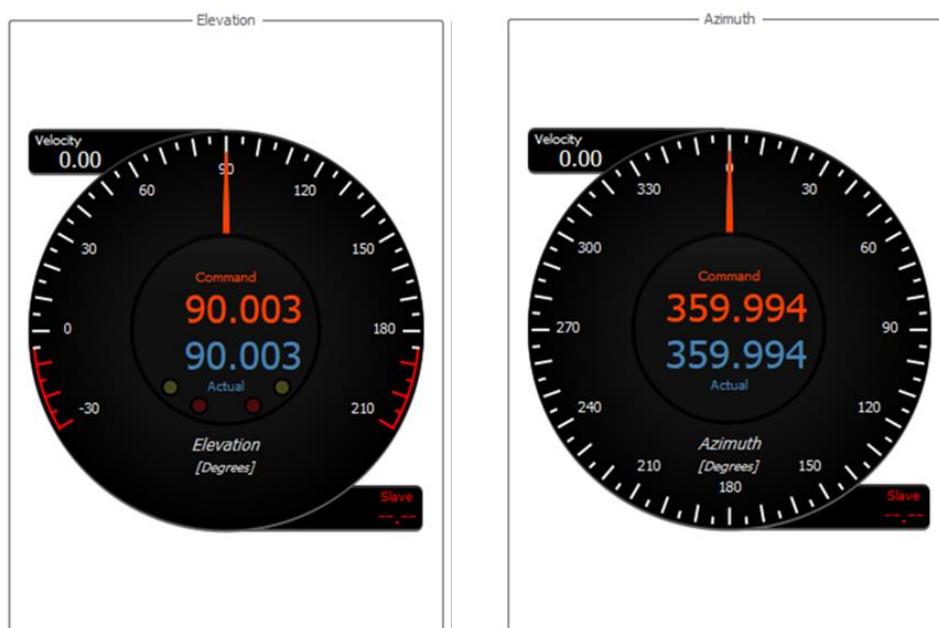

Figure 90: Axes Analog / Digital Position Feedback Indicators
The Elevation (EL) and Azimuth (AZ) axes analog / digital position feedback indicators show the pointing position of the axis with a two-color pointer and digital numerical readout (to XX.000°). The Commanded Position, blue pointer with blue digital display, indicates the position the axis was instructed to slew to represented by the lower digital readout. The actual position of the axis is indicated by the Orange pointer represented by the upper digital readout. Examples are shown in Figure 90.